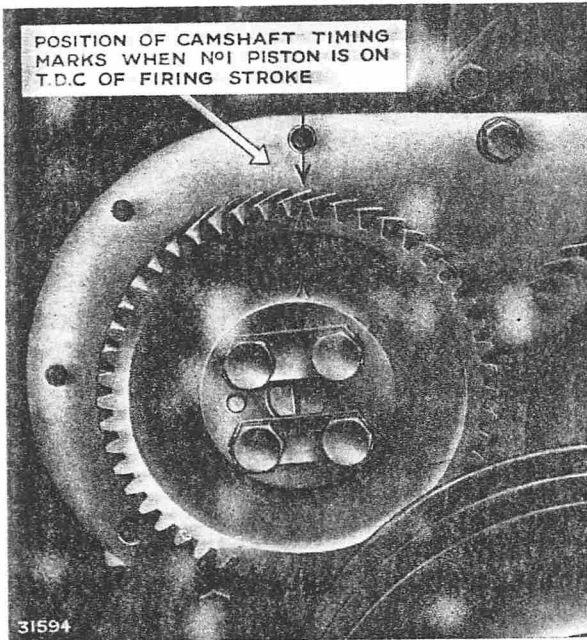

FIG. 66. CAMSHAFT TIMING MARKS
2. Fit the camshaft gear so that when the dowel hole in the gear locates on the dowel in the camshaft end, the arrows on the gear face and timing back plate are in line (Fig. 66), that is, 90° to the top face of the engine block.